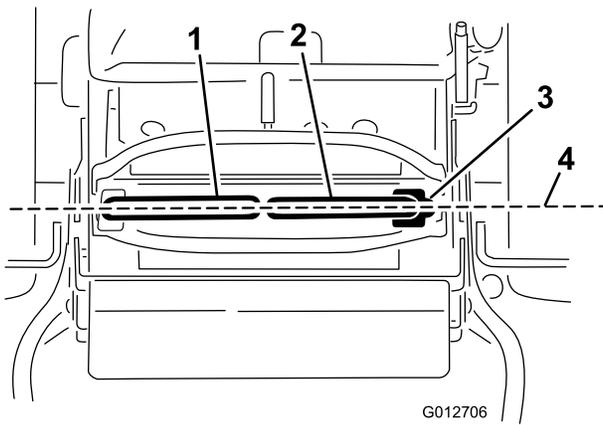

Figure 72
Important: Ensure the tracking of the mower is correct after adjusting the motion control levers. Adjusting the tracking and aligning the motion control levers front to back is the same procedure (Figure 72).
1. After the horizontal alignment is finished, check the front to back alignment by slightly pushing the control levers forward to take up any slack in the linkage for the control levers (Figure 72).